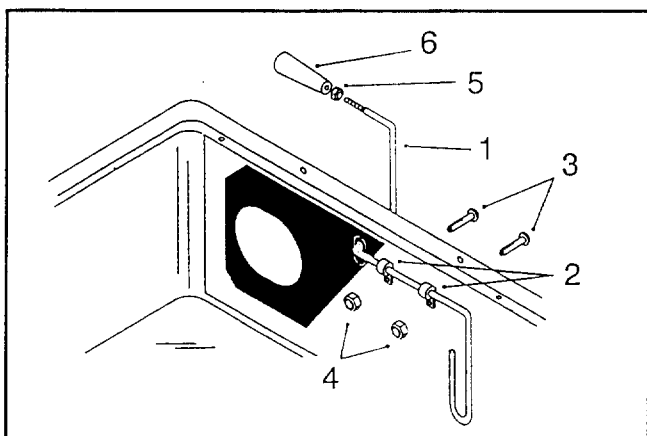

Figure 8
2. Install the "full-bag" indicator rod through the hole in the rubber seal and the slot in the bagger cover (Fig. 8). Mount the full-bag indicator rod against the bagger cover using two clips, 1/4" x 5/8" pan-head screws, and 1/4" nylon lock nuts (Fig. 8).
3. Screw the jam nut completely onto the indicator rod (Fig. 8). Then screw the handle (Fig. 8) close to the jam nut so you can read the decal from the operator's position. Tighten the jam nut up against the handle to lock it in place.